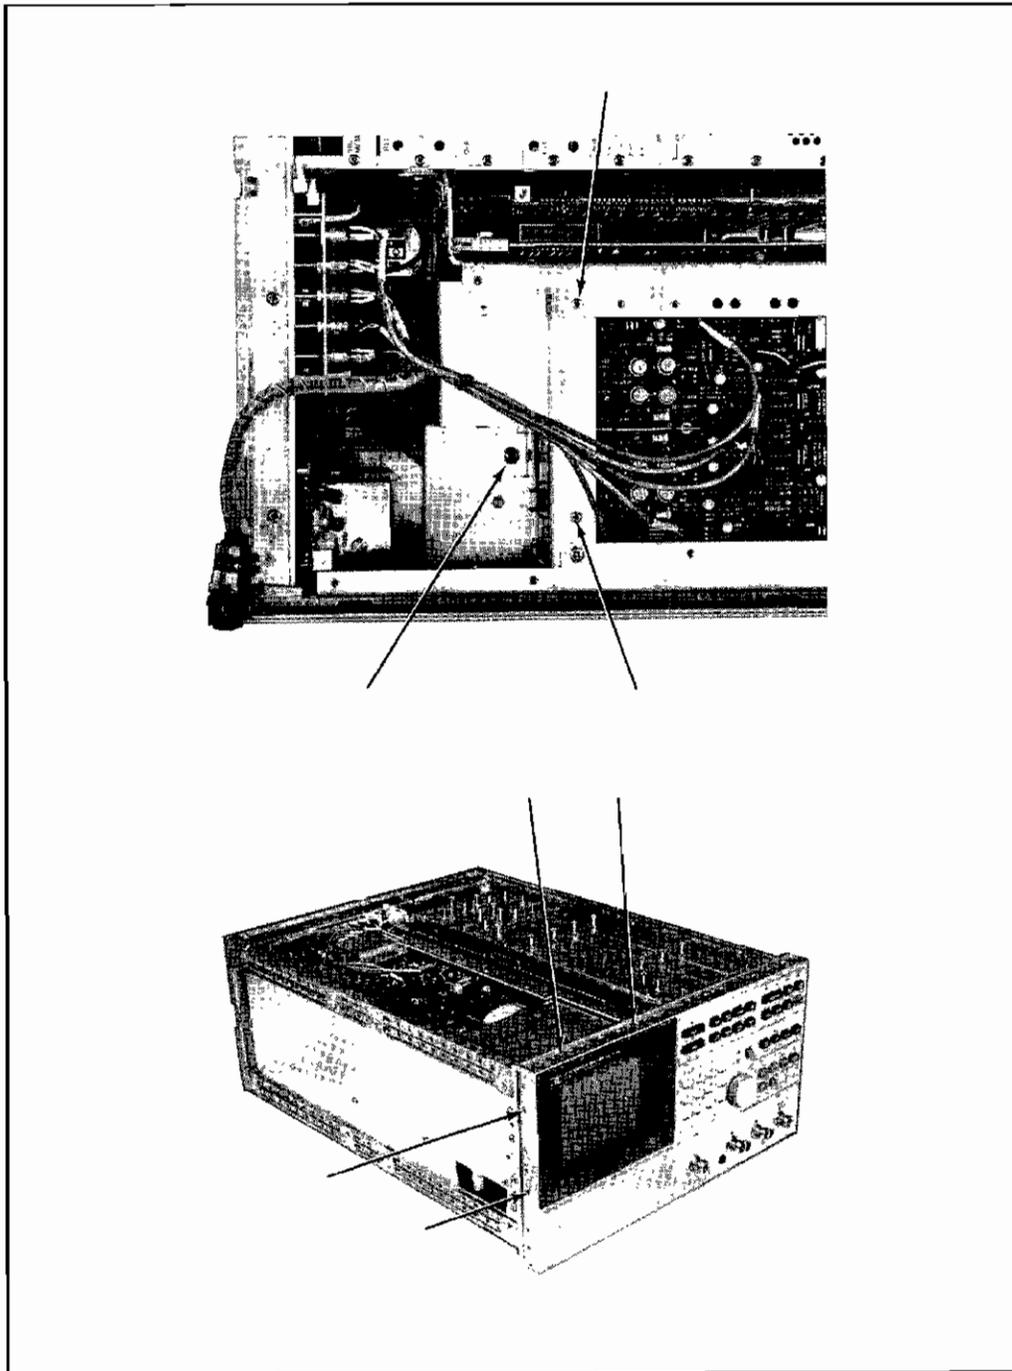

Figure 8-25. HP 1345A Removal
The HP 1345A Digital Display is a stand alone digital display which is serviced separately using the HP 1345A service manual included with the instrument. To remove the display for servicing, the only screws requiring removal are those called out in Figure 8-25. With the HP 3577A placed on its side, the internal cables used to connect to the display can be connected to the removed display. Perform the following steps to remove the display.
- f. Remove the front frame and side panel screws as shown in Figure 8-25.
- g. Remove the screw which attaches the display to the instrument bottom deck as shown in Figure 8-25.